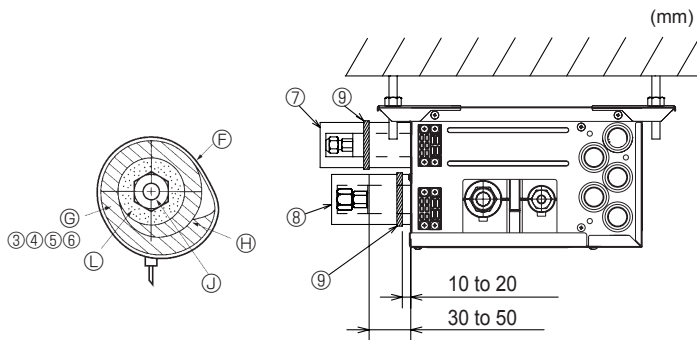
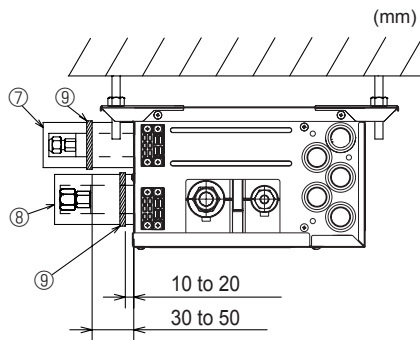

Fig. 7-3
Fig. 7-4
- (3) Connect the refrigerant piping immediately. Always tighten the flared nuts to the torque specified in the table 2 using a torque wrench and double spanner.
- (4) Press the pipe covers ③ and ⑤ on the liquid piping against the unit and wrap to hold in place. (Fig. 7-3)
- (5) Press the pipe covers ④ and ⑥ on the gas piping against the unit and wrap to hold in place. (Fig. 7-3)
- (6) Apply the supplied bands ⑨ at a position 10 - 20 mm from each end of the pipe covers (③④⑤⑥).
- (7) If the indoor unit is not connected, fit the supplied pipe covers (with caps, ⑦ and ⑧) to the branch box refrigerant piping connections against the unit to prevent condensation dripping from the pipes. (Fig. 7-4)
- (8) Clamp the pipe covers (⑦⑧) in place with the supplied bands ⑨.
- Ⓕ Band ⑨
- Ⓖ Pipe covers ③④⑤⑥
► Use the following procedures for indoor connection part which indoor unit is not connected. (Fig. 7-4)
- (1) In order to prevent refrigerant leaks, make sure that the flare nuts are tightened according to the specified torques\* in Table 3.